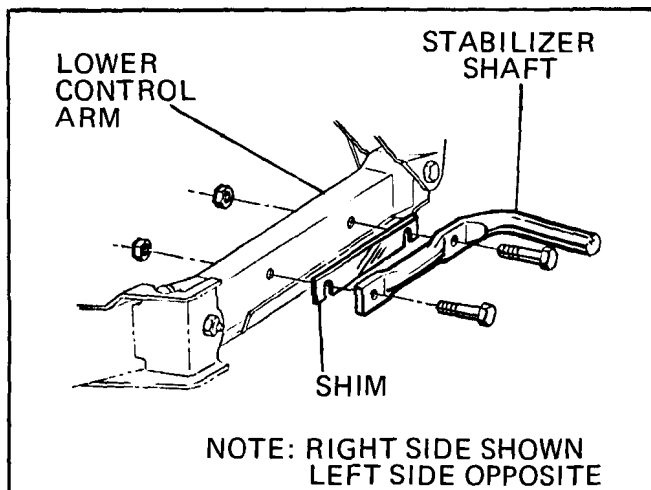

Fig. 4-28 Installation of Stabilizer Shaft on GTO
2. Remove bolts attaching stabilizer shaft to each lower control arm (Fig. 4-28).